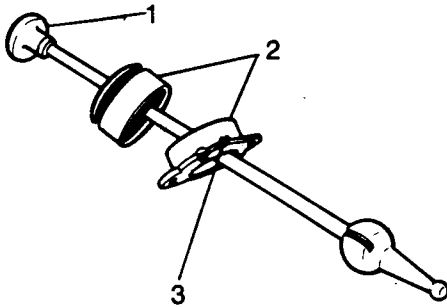

Fig H1.159
- (2) Refer to Fig H1.159. Remove the knob and fixing nut (1).
- (3) Remove the support and dust cover (2) from the ball joint.
- (4) Remove the fixing screw (3).